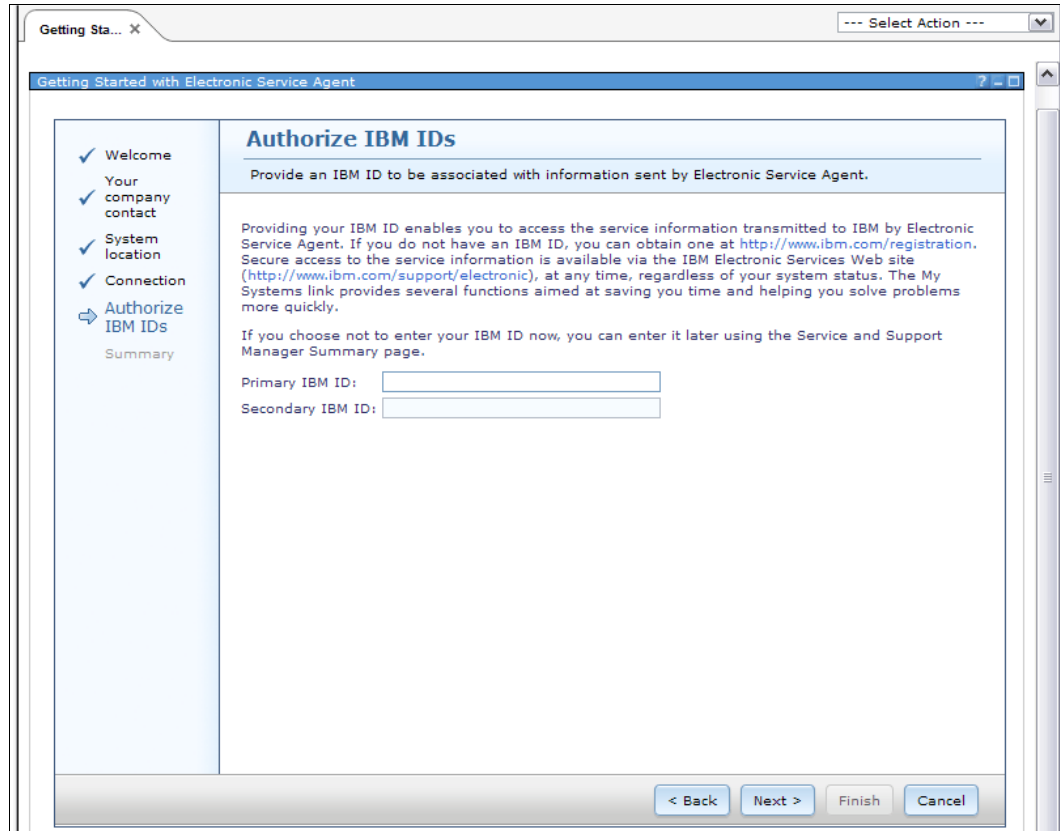

Figure 13-50 Provide IBM ID access
5. Click **Next**. Provide an IBM ID to be associated with information sent by the Electronic Service Agent, as shown in Figure 13-50.